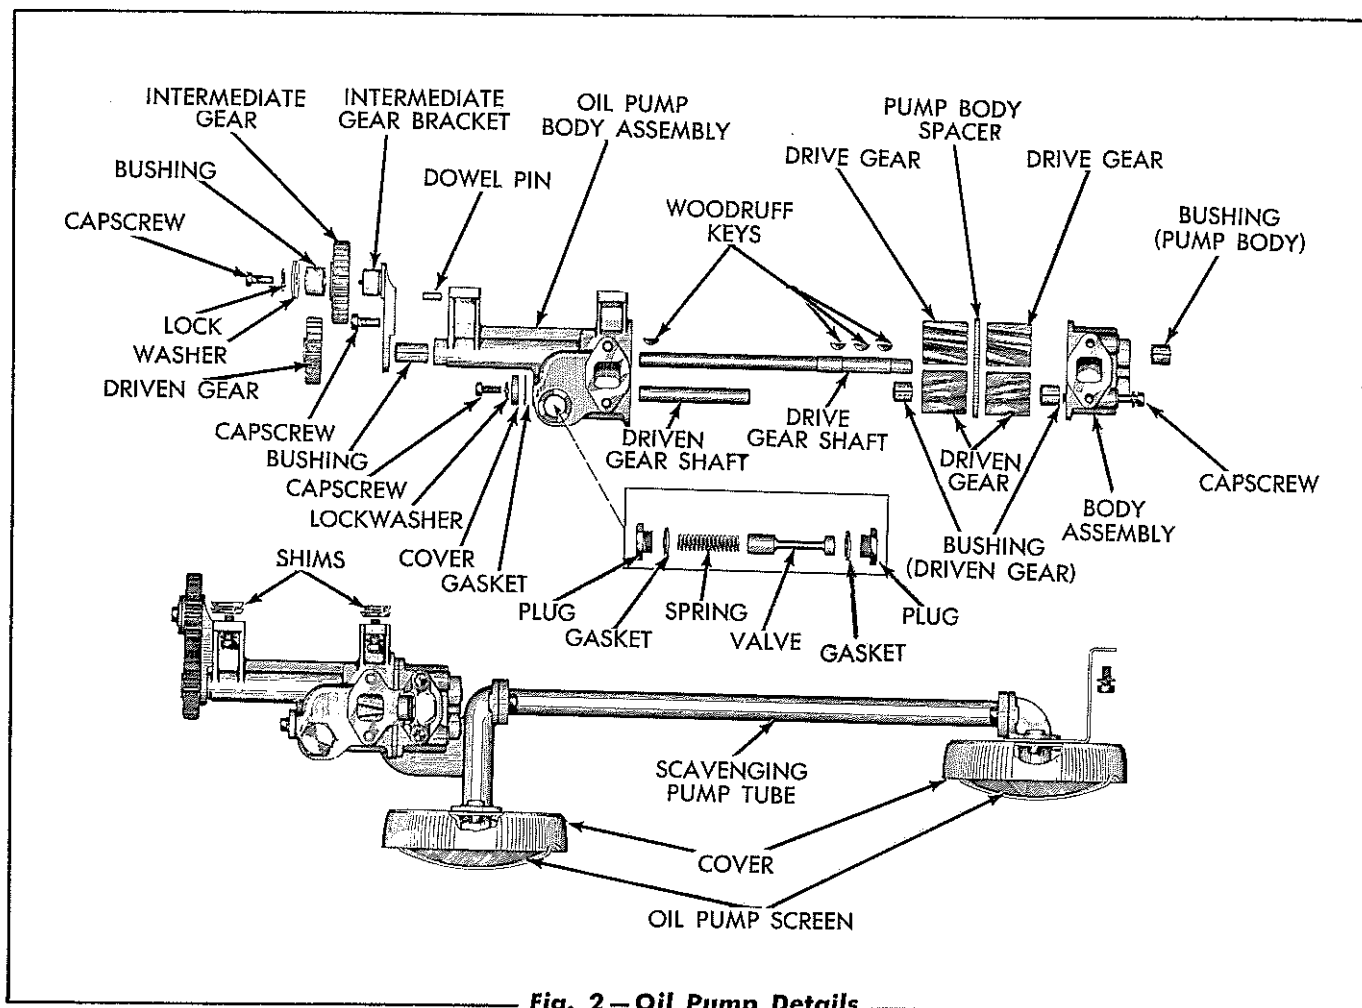

Fig. 2 — Oil Pump Details
Refer to Fig. 2 which shows the relative location of all parts. *NOTE: The drive gear shaft has three (3) keyways in one end and one (1) keyway in the opposite end. The end having the three (3) keyways will be referred to as the rear.*